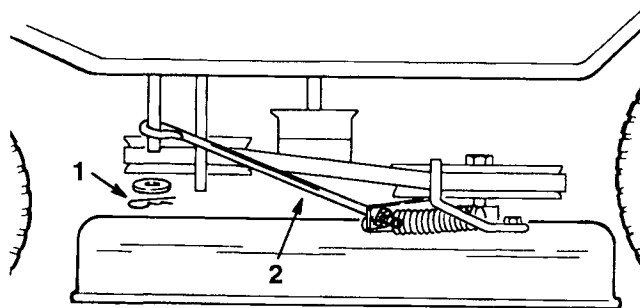

Figure 45
9. Install the blade control rod onto the blade control arm and secure it with the washer and hair pin cotter (Fig. 45).